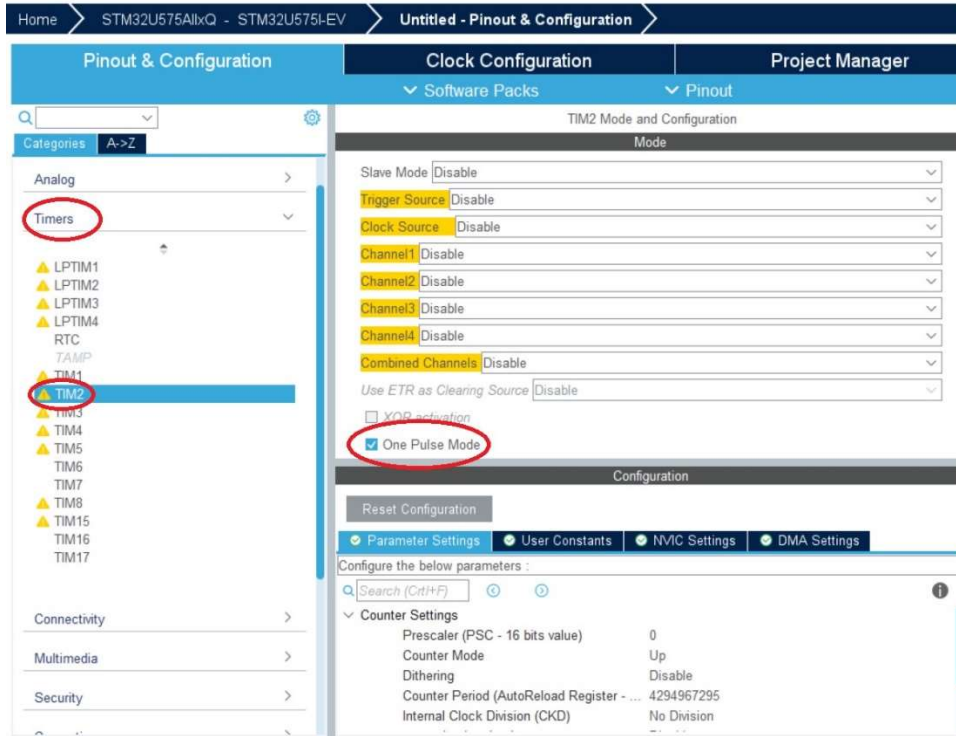

Figure 3.6 – Enabling TIM2 for Dynamic Tick Configuration
- b) This step can be skipped if the user decides to use the SysTick as time source for Cesium RTOS. However, if Dynamic Tick is chosen, locate the **TIM2** peripheral under the “**Timers**” category as shown in Figure 3.6. Only the “**One pulse mode**” checkbox needs to be checked to enable the TIM2 API functions when the final code is generated. The generated code will work with TIM2; however, if the timer is not available with your MCU then it is possible to choose a different TIMx and modify ‘**bsp_os.c**’ accordingly.